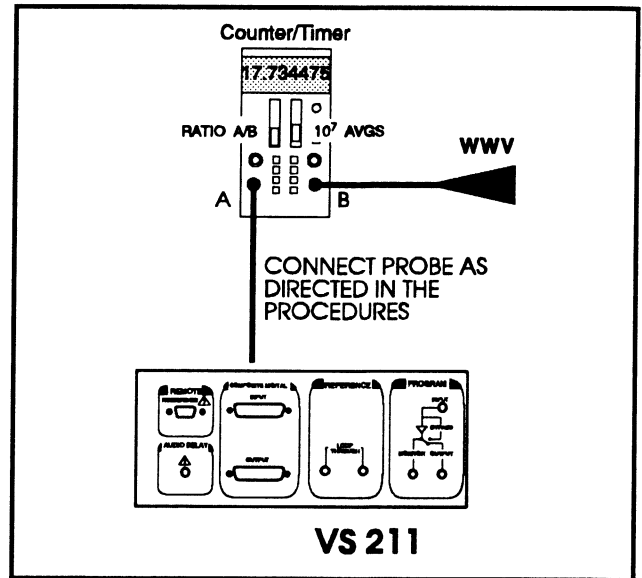

Fig. 4-31. Setup to adjust the DAC frequency.
- Setup the equipment as shown in Fig. 4-31.